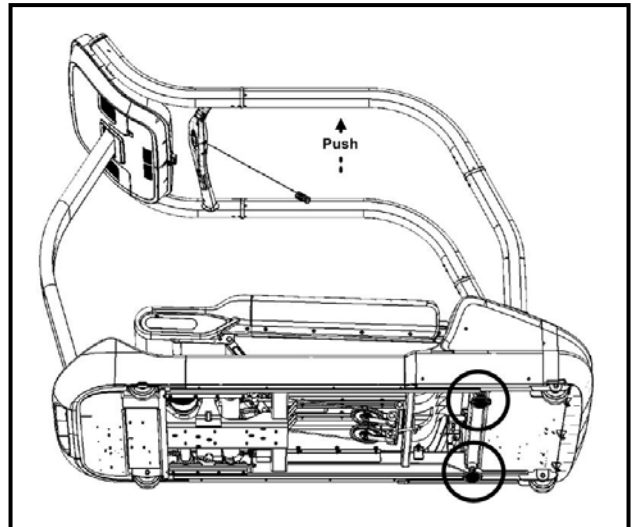

Fig. 29
27. With two or more people, have one person carefully tilt the assembled TreadClimber® (Fig. 29) at an angle by pushing up at the center of each handrail while the second person installs the rear stabilizing feet.